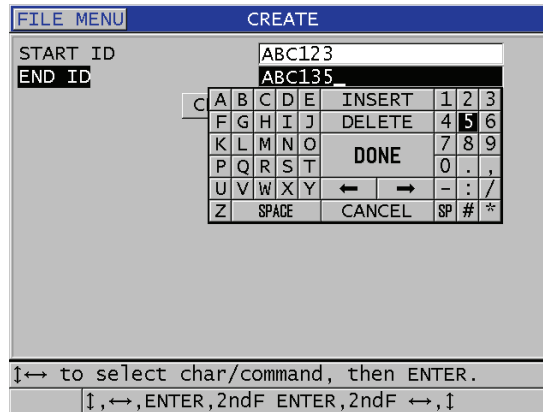

Figure 11-5 Selecting the ID range for the sequential file type
3. In the second page of the **CREATE** screen (see Figure 11-5 on page 166):